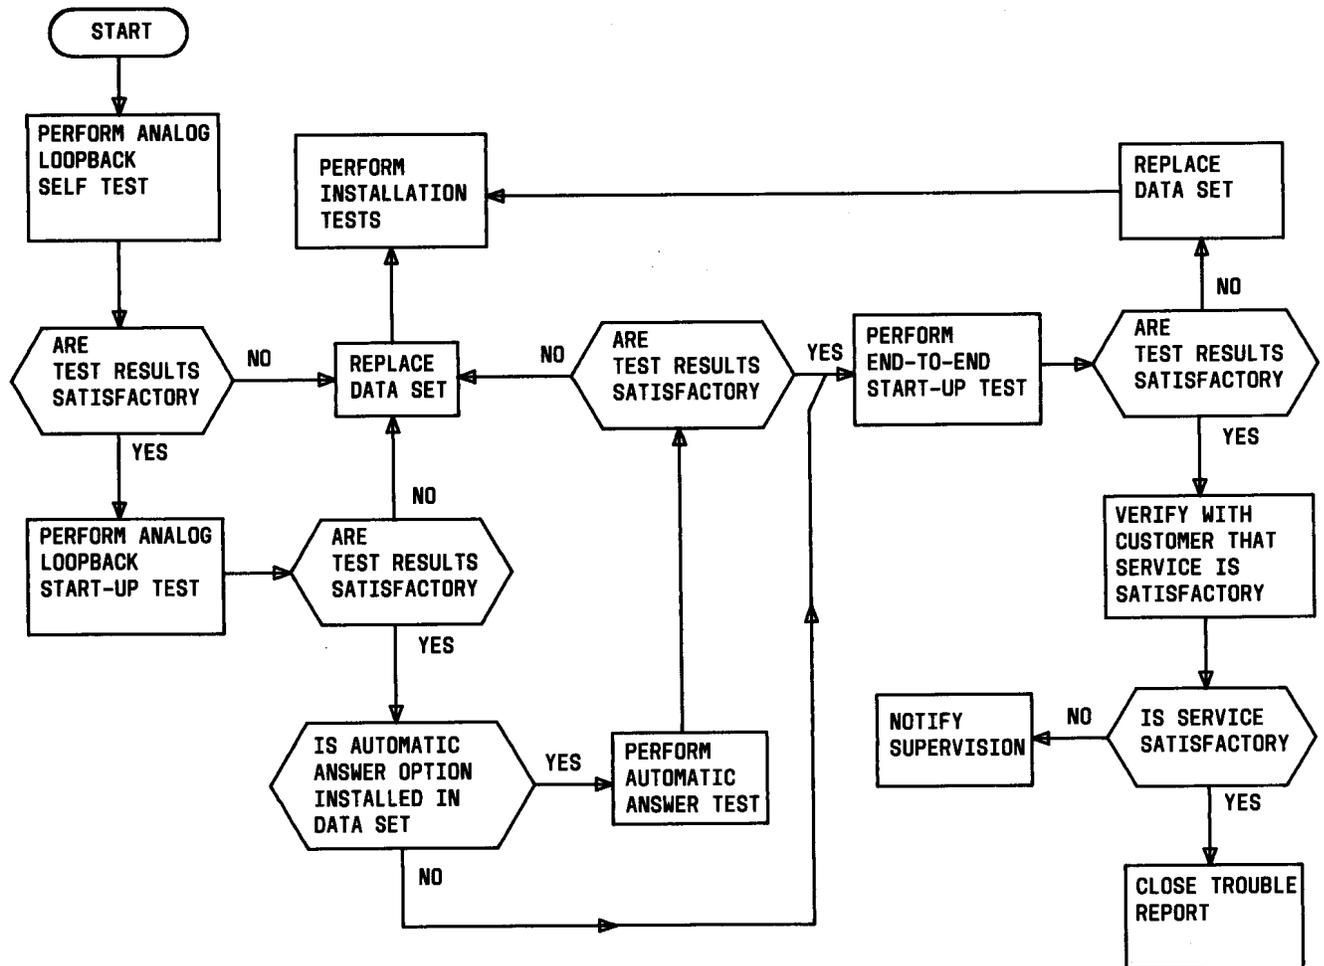

Fig. 4—Maintenance Test Sequence
3.04 Refer to Fig. 4 for the sequence in which tests are to be performed by the telco employee at the data station. If the data set is